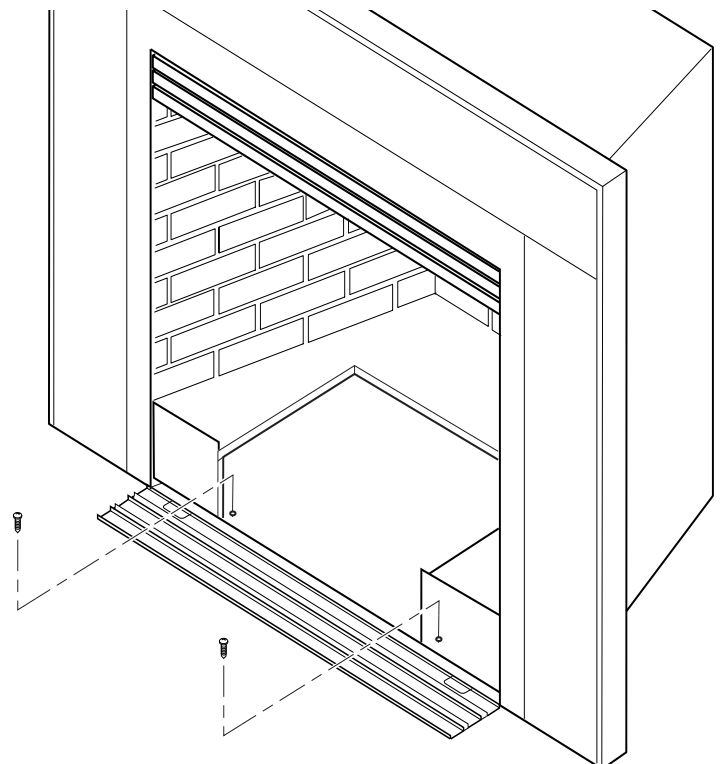

Figure 17 - Securing Firebox to Floor or Hearth
4. Secure the firebox with two anchoring screws ($\frac{3}{16}$ " x $1\frac{1}{4}$ " length) supplied with the fireplace system. See *Figure 17*.